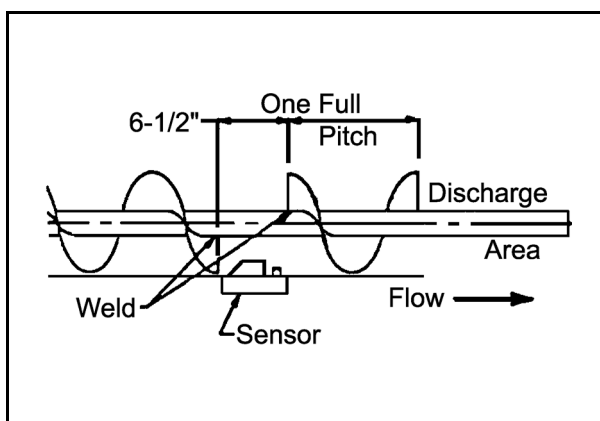

Figure 4C
(See Figure 4C). There must be at least one (1) full pitch of flighting on the discharge auger before and after the sensor to move the grain over the sensor blade.